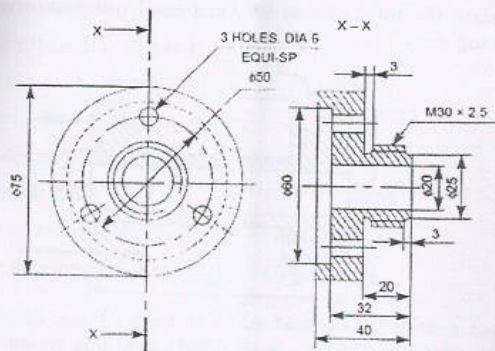

Fig. 3
- (b) Consider the component shown in Fig.3. mention the machining operations involved and give the recommended machining parameters for each operations and prepare a simple process plan for manufacturing the part.